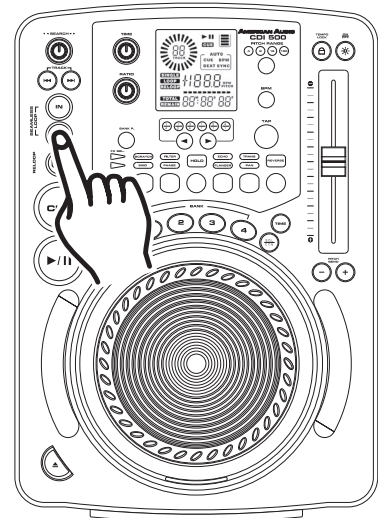

Figure 21
- 1) Press the *OUT BUTTON* (24) to return to normal play from the loops cue point. (Figure 21). This will disengage the SEAMLESS LOOP mode and allows you to edit the loops ending point.
- 2) Press the *OUT BUTTON* (24) again when you reach your new ending point (Figure 21).
- **FOR A SHORTER LOOP:** Press the *OUT BUTTON* (24) at sooner point in the track (Figure 21).
- **FOR LONGER LOOP:** Press the *OUT BUTTON* (24) at later point in the track (Figure 21).